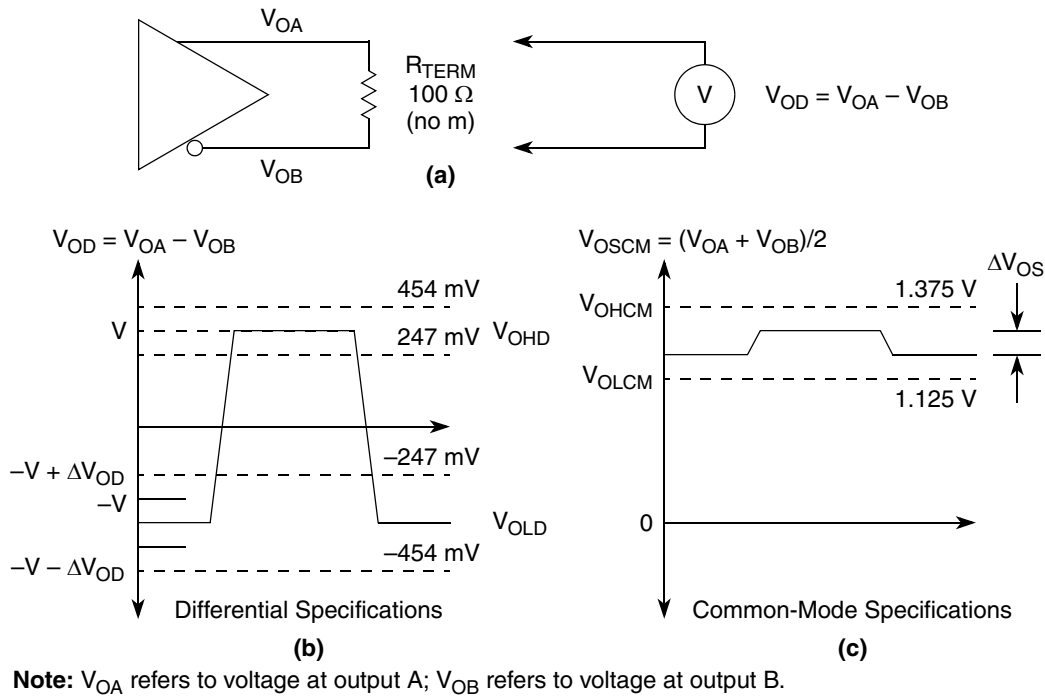

Figure 34. DC Driver Signal Levels
2. See Figure 34\(a\).
3. Differential offset voltage =  $|V_{OHD} + V_{OLD}|$ . See Figure 34\(b\).
6. Common mode offset  $\Delta V_{OSCM} = |V_{OHCM} - V_{OLCM}|$ . See Figure 34\(c\).
Figure 34 shows the DC driver signal levels.